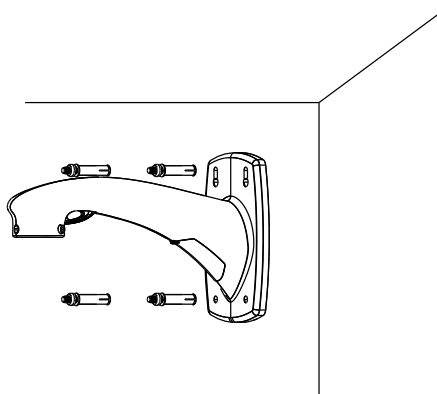
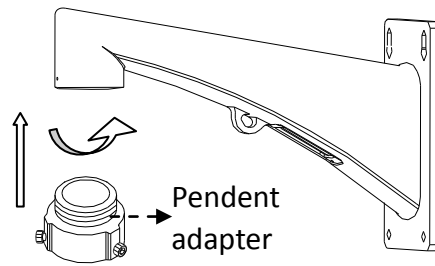

Figure 1-4 Install the Wall Mount
Figure 1-5 Pendent Adapter
- The mount in Figure 1-4 is the recommended mount for this series of speed dome, and a pendant adapter is required if any other mount is selected. See Figure 1-5.